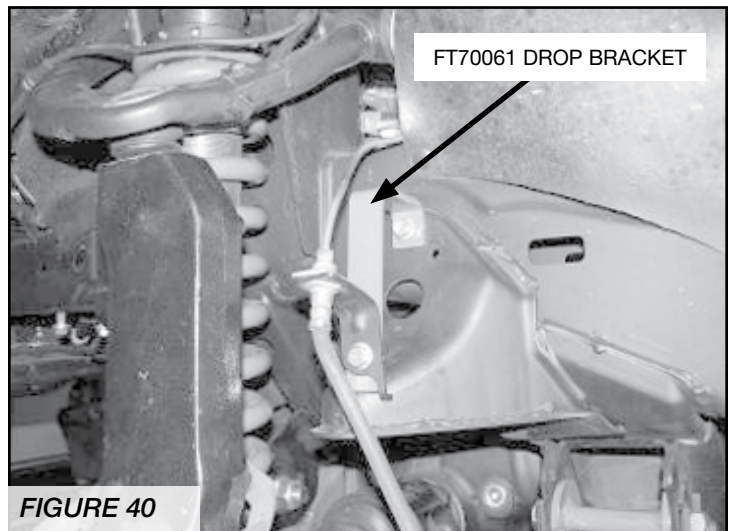

FIGURE 40
30. Locate the factory brake line tab next to upper control arm. Unbolt the bracket from the frame save hardware and bracket. You will need to carefully pull the hard brake line down 4". Locate FT70061 brake line drop bracket and attach the bracket to the frame with the factory hardware in the upside down J formation. Attach factory bracket to the new bracket using the supplied 5/16" x 1" bolt, nut, and washers. **SEE FIGURE 40**